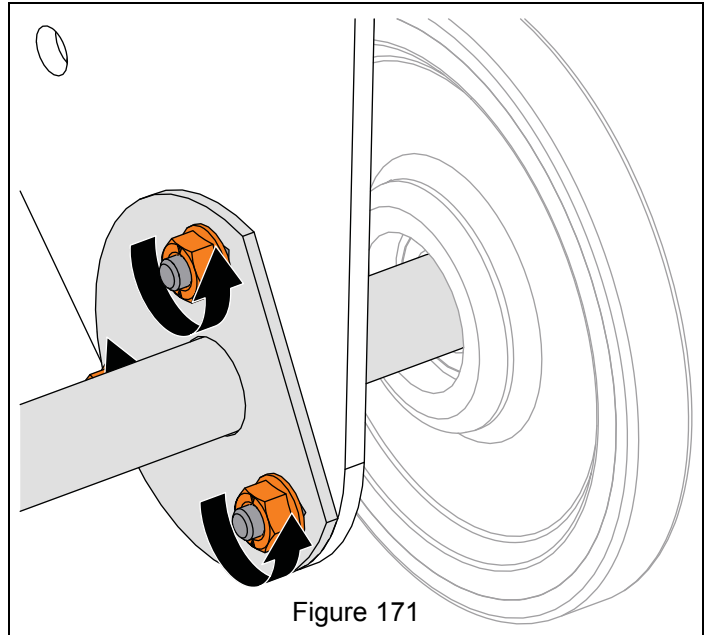

Figure 171
4. Reinstall E-ring onto axle end. See Figure 171.